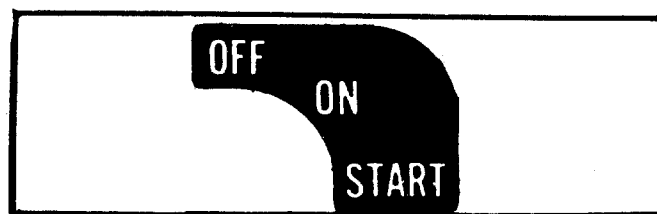

FIGURE 14. STARTER SWITCH
See figures 14 and 15. Turn the ignition key to the START position. When the engine is running, let the key return to the ON position.
Step 1. With the machine on level ground, place a suitable metal container under the oil drain plug, then remove the drain plug. See figure 14.